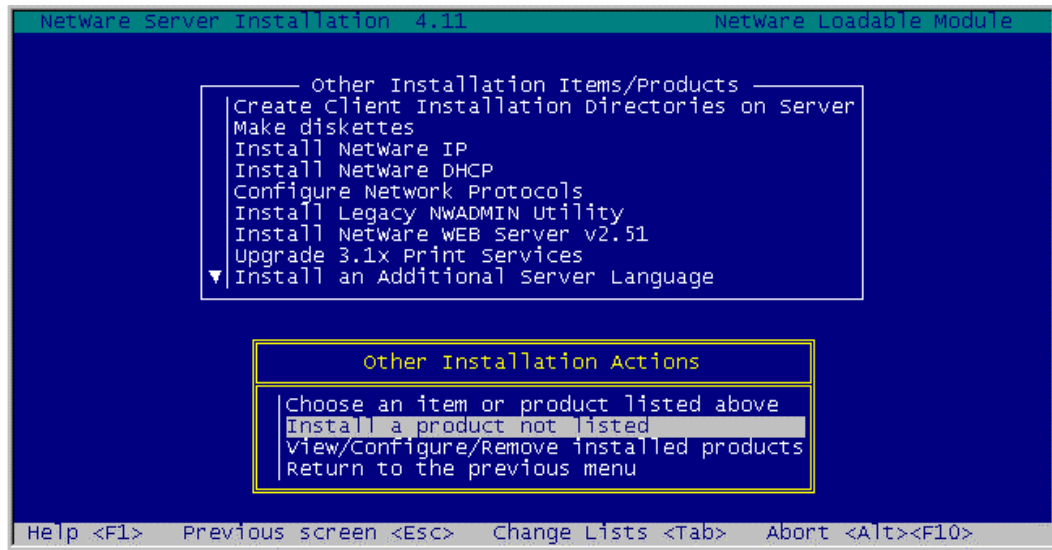

Figure 12-2. Other Installation Actions Menu
3. Choose the menu selection “**Product options**” and press **ENTER**. The Other Installation Actions menu will display (Figure 12-2).